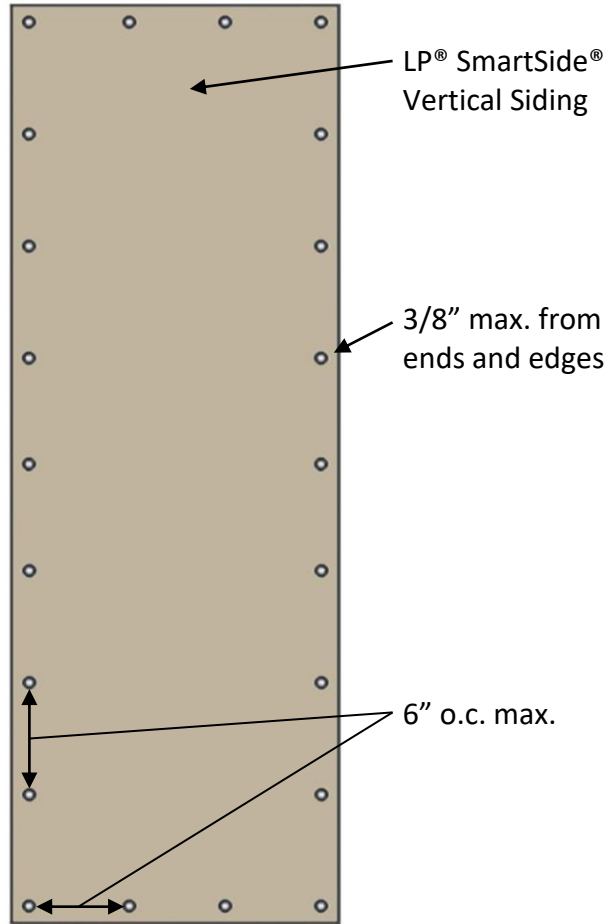

Figure 2
- Maximum 3/8 inch from ends and edges (*See Figure 2*)
- Fastened a maximum of 6 o.c. along the perimeter (*See Figure 2*)